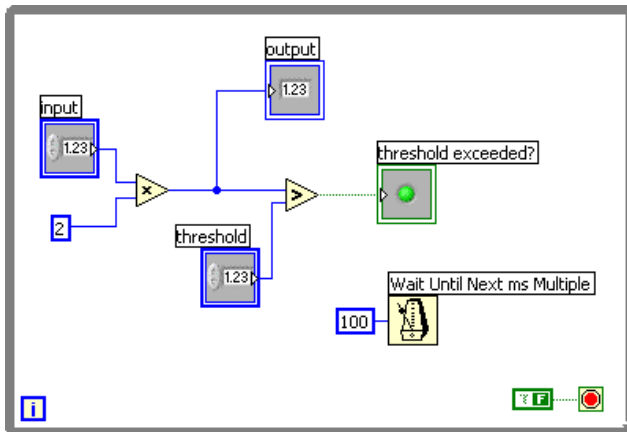

Figure 10. Creating the Block Diagram
3. Create the block diagram as shown in Figure 10.